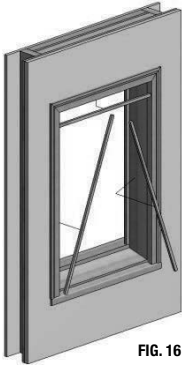

FIG. 16
- D) If applicable, remove parting stops from head and side jambs. (Fig.16) **A casement window would not have parting stops.**